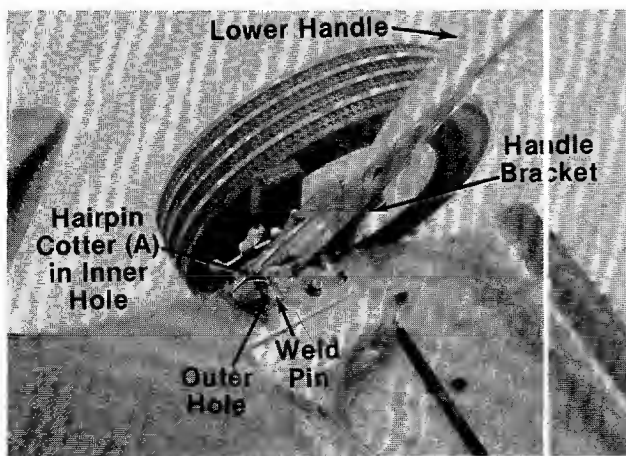

FIGURE 2.
- C (2) Lock Washers 5/16" I.D.
- D (2) Hex Nuts 5/16-18 Thread
- E (2) Cable Ties
- F (4) Shoulder Bolts*
- G (4) Belleville Washers 3/8" I.D. x 7/8" O.D.*
- H (4) Belleville Washers 3/8" I.D. x 1-1/8" O.D.*
- I (4) Hex Nuts 3/8-16 Thread*
3. Place lower handle in position over weld pins in handle mount brackets on deck. Make certain the instruction label on the lower handle can be read from the operating position. Secure by placing two hairpin cotters (A) in inner hole on weld pins. See figure 2.